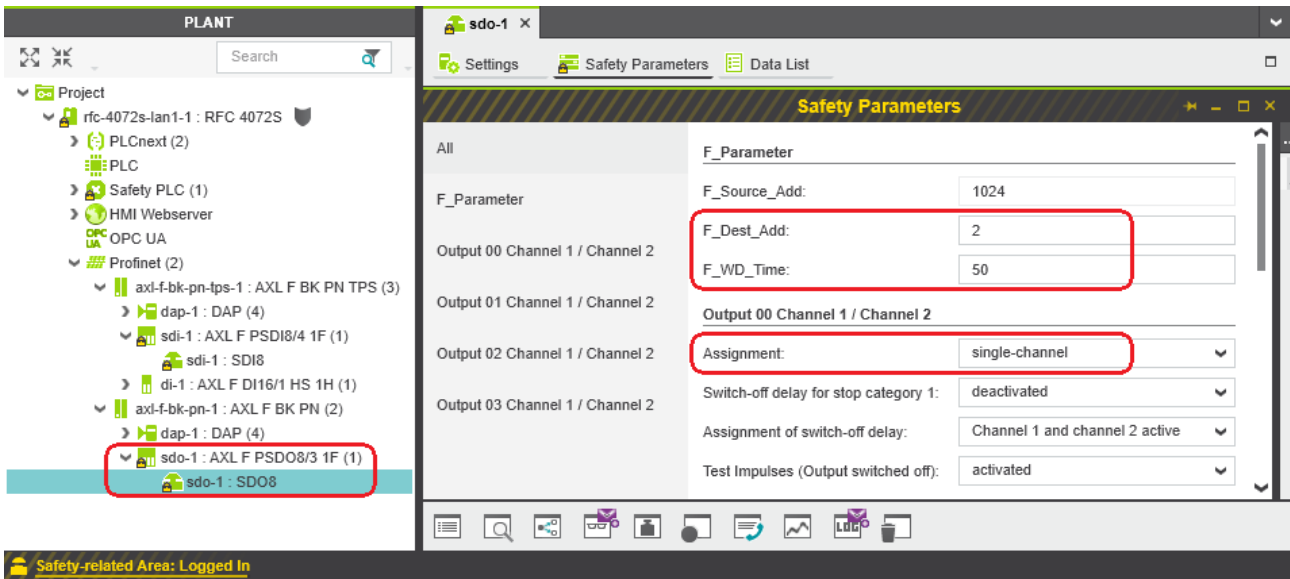

Figure 4-47 “Safety Parameters” editor: AXL F PSDO8/3 1F
- Under the “Profinet (x)” node in the “PLANT” area, double-click on the lower-level node of the safety module whose safety parameters you want to set (in the example in Figure 4-47 on page 124: AXL F PSDO8/3 1F).
- Set the required safety parameters. In the example in Figure 4-47, these are F-Address F_Dest_Add, watchdog time F_WD_Time, and the assignment of channels 1 and 2 of the outputs.